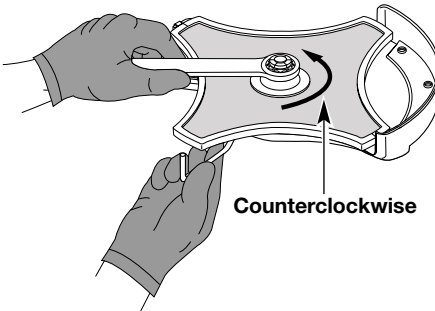

Fig. 13
8. Tighten counterclockwise against the blade while holding the locking rod (Fig. 13).